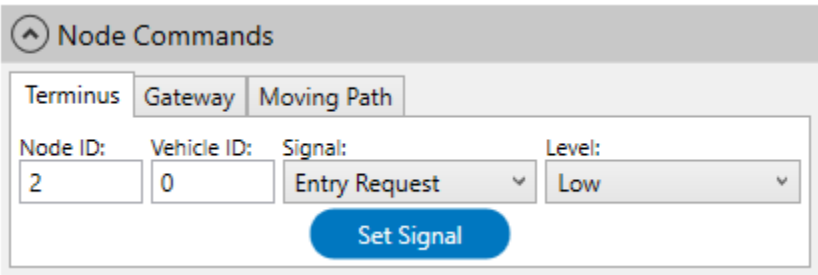

Figure 2-66: Complete Movement of Vehicle Onto a Terminus Node
3. Configure the Terminus Node to complete the vehicle entry as shown in Figure 2-66.